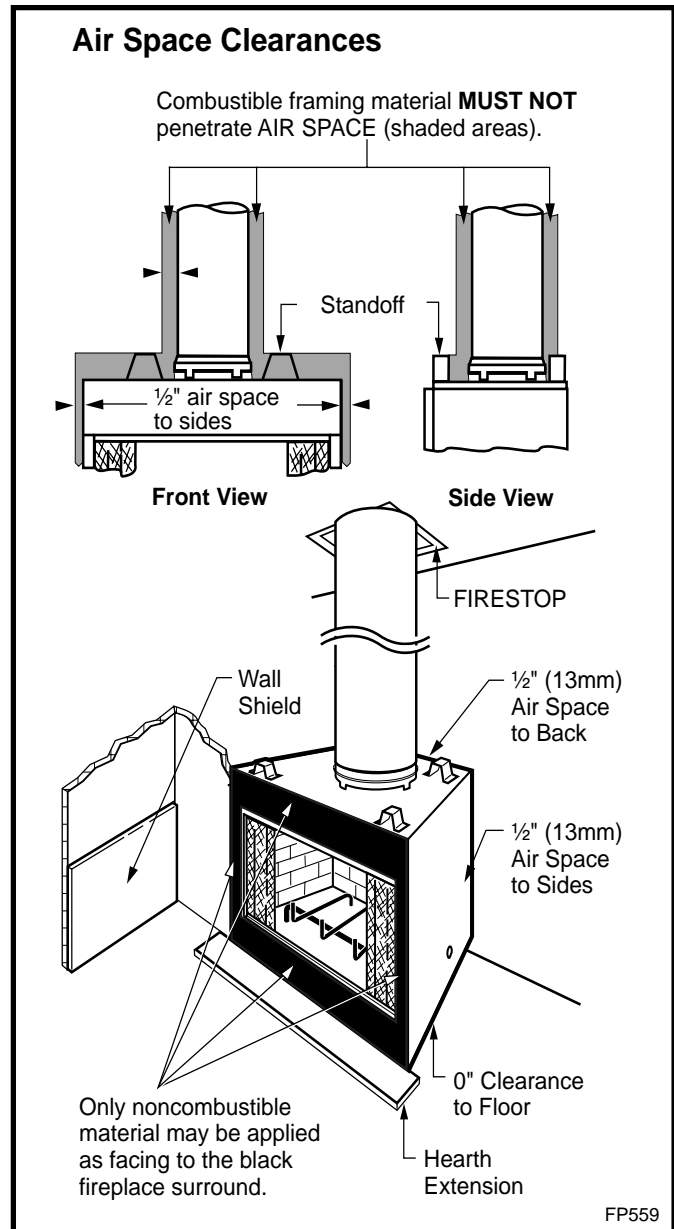
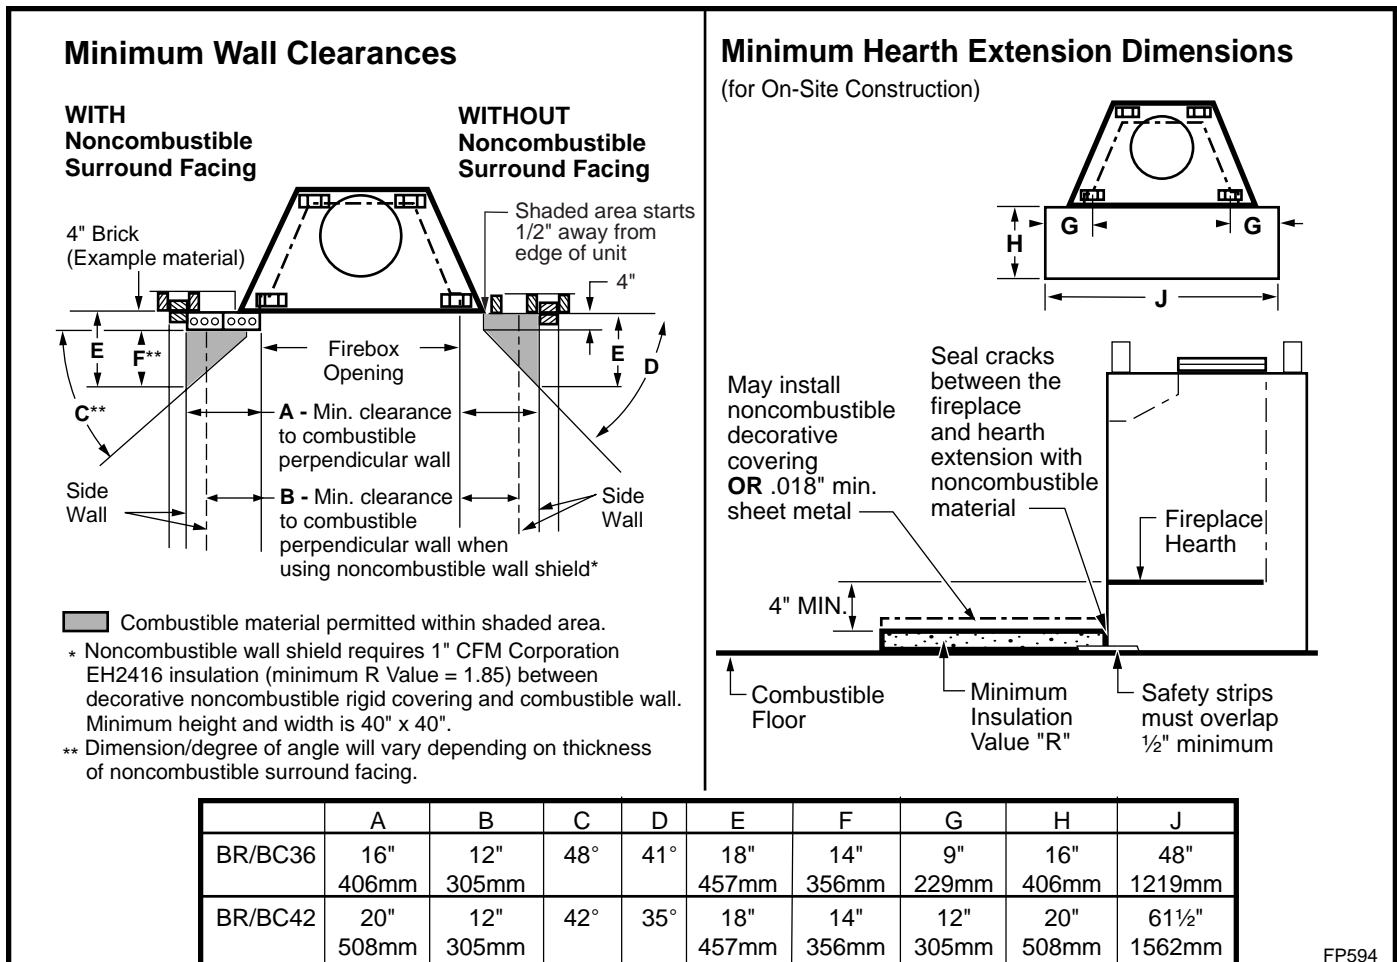

Fig. 20 Minimum clearances to combustibles.
Fig. 23 Combustible side wall protection and hearth extension dimensions.
CAUTION: All joints between the finished wall and the fireplace surround (top/sides) must be sealed with noncombustible material to prevent cold air leakage into the room. Only noncombustible material may be applied to the facing of the fireplace surround. (Black painted area) (Fig. 20)
Often a decorative surround or vertical portion of the mantel is desired. If this is constructed of any combustible material it must be within the safe zone indicated in Figure 23.
Adjacent combustible side walls that are within minimum dimensions shown in Figure 23 of the fireplace opening must be protected with CFM Corporation Wall Shield Model SP40 or a specifically built wall shield described in Figure 20.
The special wall shield design described in Figure 20 is an alternate method of adding protection to side walls and can be used in place of the SP40 with the same wall clearances specified for the SP40. Rt must =1.85 minimum.
A hearth extension is required to protect a combustible floor in front of the fireplace. Refer to Figure 23 for minimum dimensions and mounting detail.
The hearth extension described in Figure 23 must be a durable noncombustible material with a minimum (total) Rt value of 1.09; see Figure 24 for examples. The overall height (above a combustible floor), depth and width must be as indicated, with the extension centered to the fireplace opening.
The top of insulation must be covered with a noncombustible decorative covering or a piece of .018" minimum sheet metal, to protect hearth extension material. (Fig. 23)
Secure the hearth extension to the floor to prevent shifting, using trim molding or other similar means at three (3) outer edges. Seal crack between the fireplace hearth and hearth extension with a noncombustible material. (Figs. 23 and 25)
WARNING: HEARTH EXTENSION MUST BE INSTALLED IN ACCORDANCE WITH FIGURE 23 AND MUST NOT COVER THE BOTTOM FRONT OPENING OF THE CIRCULATING MODEL.